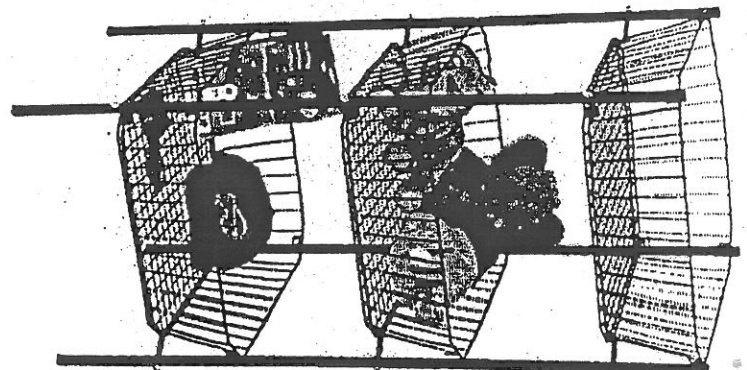

Figure 3
Step 2 – With the remaining bolts, cap nuts and sleeves, attach the last two legs to the remaining corners of the baskets. (See Figure 3)
Step 3 – After all bolts and cap nuts are assembled, securely tighten with wrench (G).